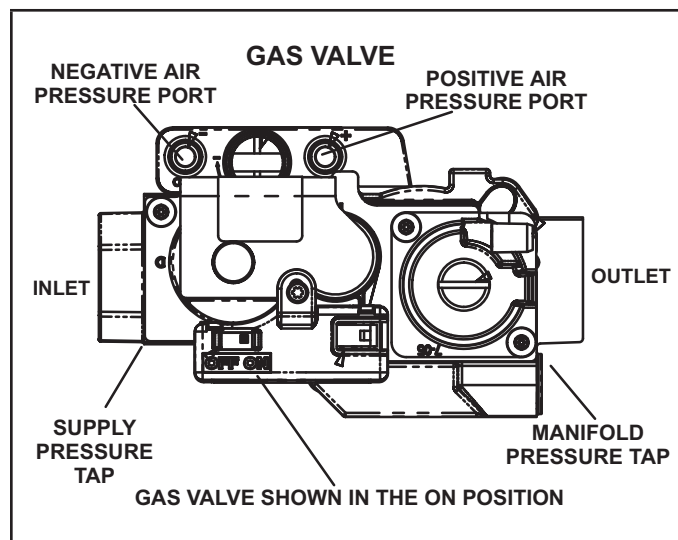

FIGURE 60
Gas Valve Operation (FIGURE 60)
- 6 - Move the gas valve switch to the OFF position. See FIGURE 60.
- 8 - Move gas valve switch to the ON position. See FIGURE 60. Do not force.